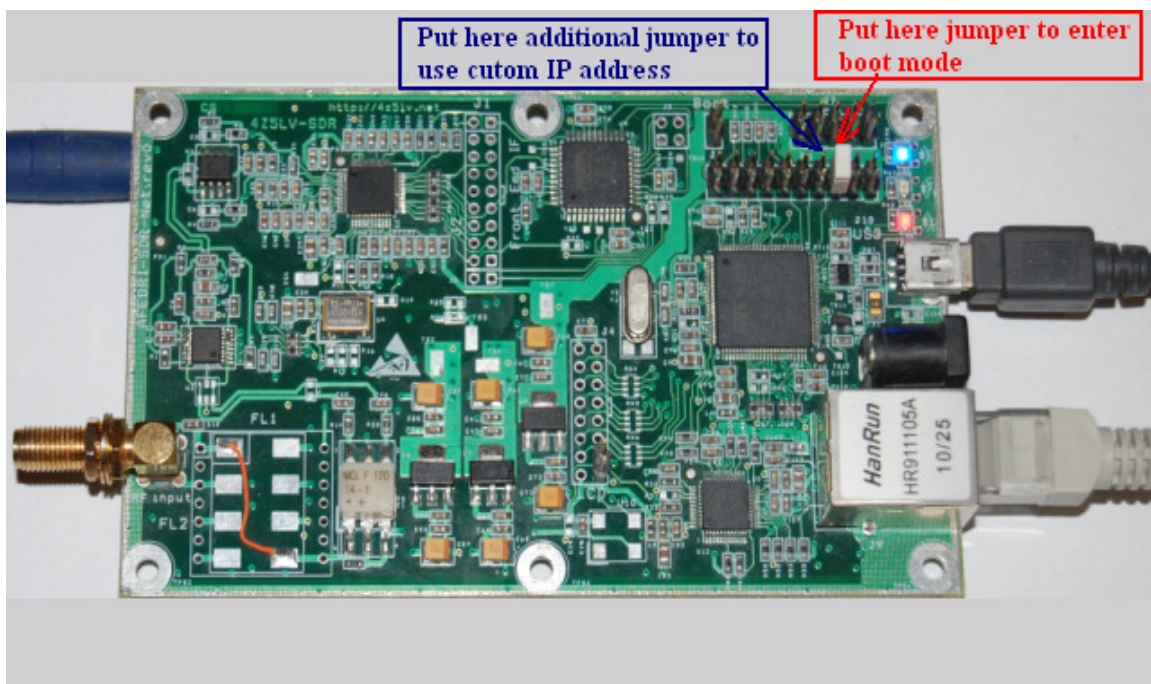

Figure 7 AFE822x SDR-Net boot-mode jumper position on JTAG (P1) connector, for firmware upgrade mode
- 3.1.1. Set jumper between pins 5 and 6 of JTAG connector P1 (see Figure.7). If you put only this jumper, SDR will have default IP address - 192.168.0.8.